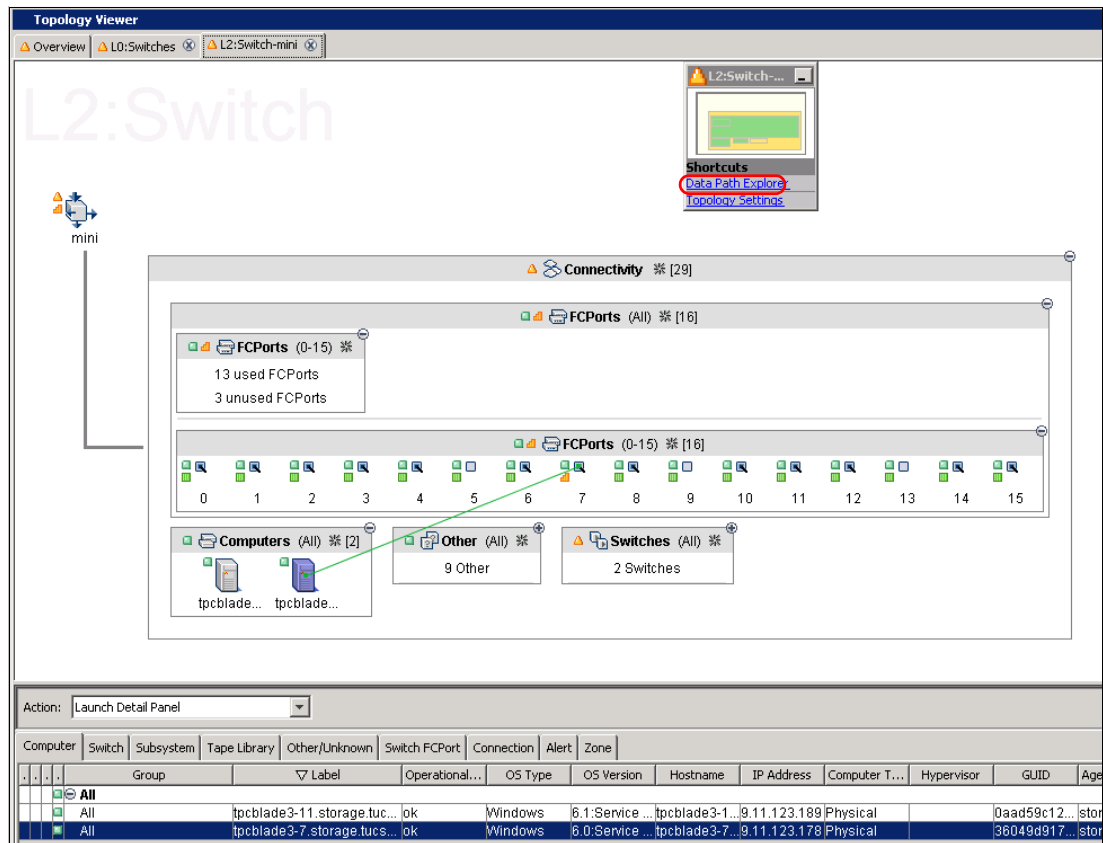

Figure 13-143 Switch port and computer
- Find and click **port 7**. The line shows that it is connected to the tpcblade3-7 computer, as shown in Figure 13-143 on page 469. You can see Port details in the tabular view at the bottom of the display. If you scroll to the right, you can also check the Port speed.
- d. Double-click the **tpcblade3-7** computer to highlight it. Then, click **Datapath Explorer** (under Shortcuts in the small box at the top of Figure 13-143) to see the paths between the servers and storage subsystems or between storage subsystems. For example, you can get SAN Volume Controller to back-end storage or server to storage subsystem.